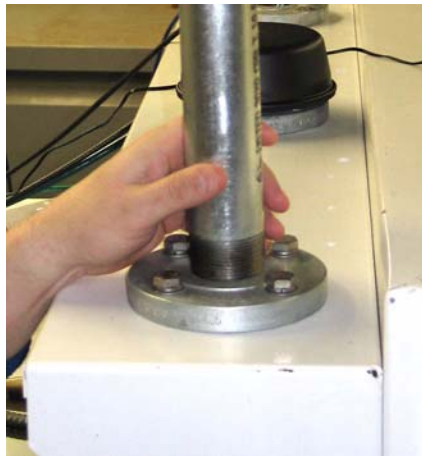

Figure 2-3 GPS Antenna Mount
The enclosure is equipped with three (3) threaded antenna mounts located on the bracket that is attached to the side of the transmitter cabinet directly above the air conditioner cabinet. See Figure 2-3. The 2 GPS antenna supports screw into any two (2) of these mounts.